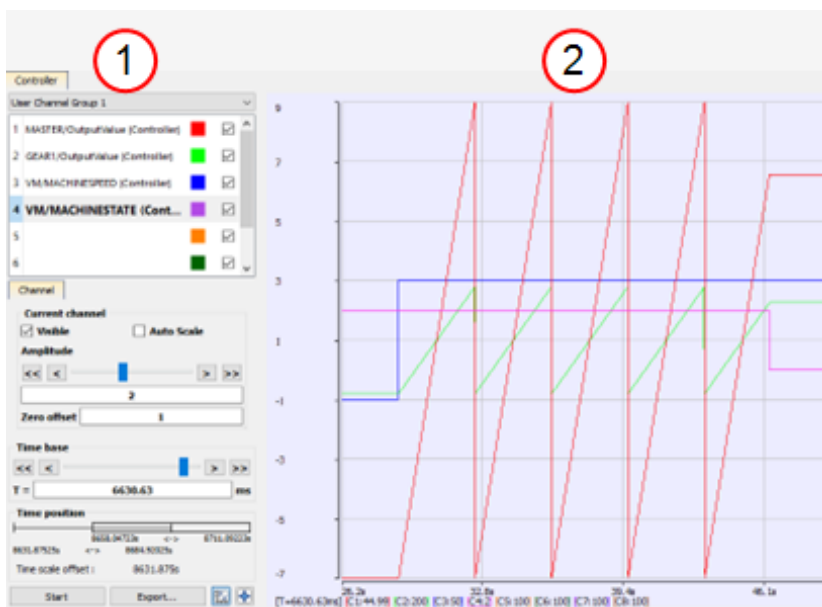

Figure 10-26: Example: Using the Oscilloscope
- The scope has a set of channels where each can acquire the evolution of a value. (Figure 10-26)